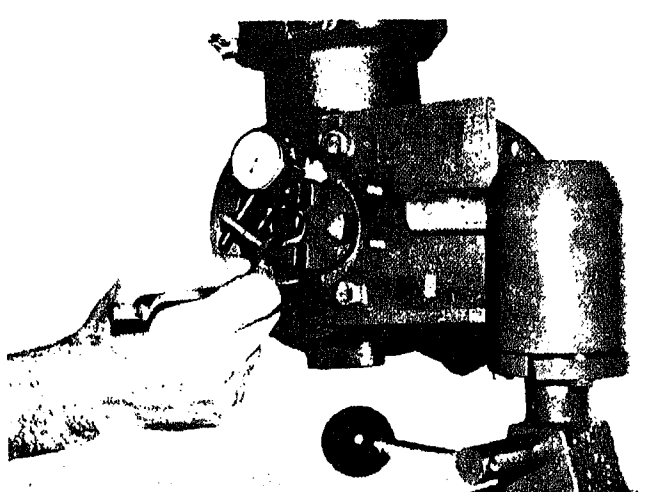

Fig. 12-2-32. Check connecting rod side clearance
17. With an indicator, check connecting rod side clearance shown in Fig. 12-2-32. Clearance must be .003/.008 inch (Lock lockplate.)